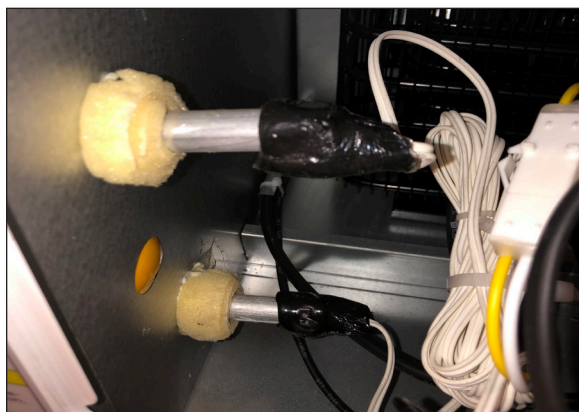

Fig. 22 Temperature probe connections
1. The top probe is for defrost temperature and the bottom probe is the case temperature (Fig. 22).